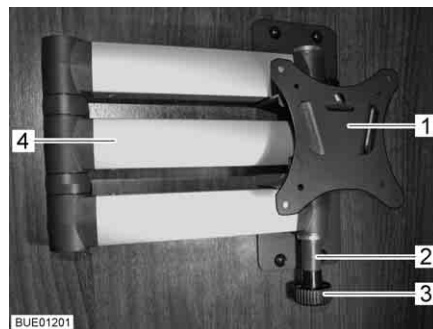

Fig. 60 Holder with jointed arm
- Pull the release knob (Fig. 60,3). The jointed arm (Fig. 60,4) is unlocked.
- Turn the flat screen back into the original position until the holder (Fig. 60,1) engages in the lock (Fig. 60,2).